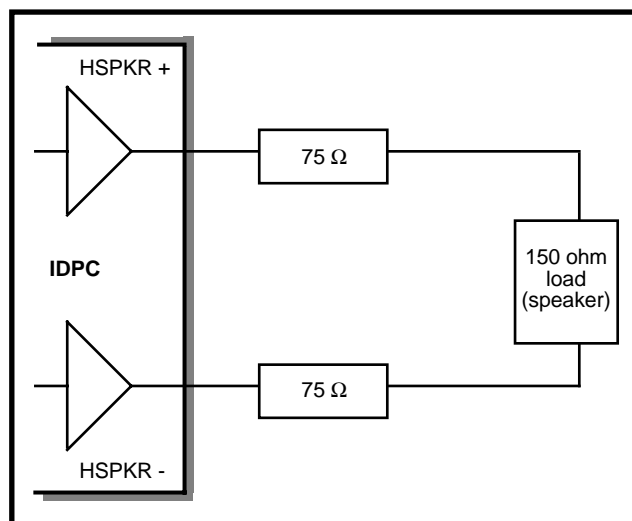

Figure 4 - Handset Speaker Driver
- ▶ The handset speaker outputs (receiver), pins HSPKR+/HSPKR-. This internally compensated, fully differential output driver is capable of driving the load shown in Figure 4. The nominal handset receive path gain may be adjusted to either -12.1 dB or -9.6 dB. Control of this gain is provided by the RxINC control bit (Control register 2, address 0Fh). This gain adjustment is in addition to the programmable gain provided by the receive filter and Digital Gain circuit.